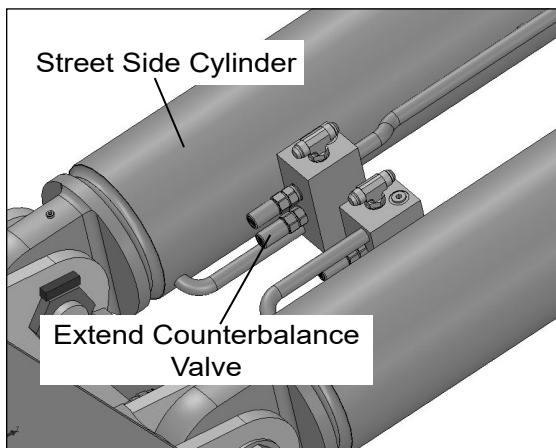

Figure 3 — Inspecting Street Side Cylinder
- On the street side cylinder, this is the lower cartridge in the manifold block (refer to Figure 3).